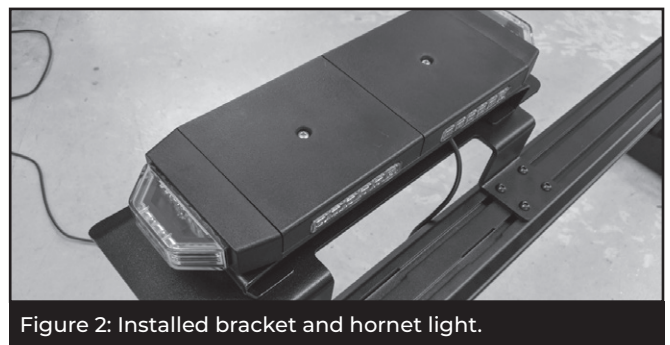

Figure 2: Installed bracket and hornet light.
- 3** Using the eight 1/4"-20 bolts, attach the bracket to the hoop with the 5/32" Allen. Make sure to center the bracket before fully tightening the bolts. **(Figure 2)**